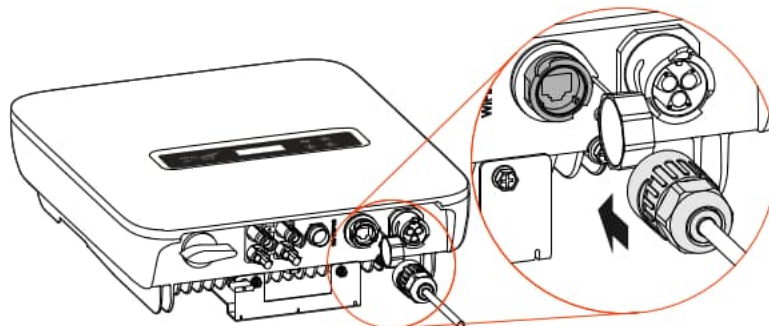

Figure3-30 Insert the communication port
- Step 3 Screw the waterproof cover on the COM. port, insert the RJ45 port to the COM. Port (as shown in Figure3-30) and screw it.